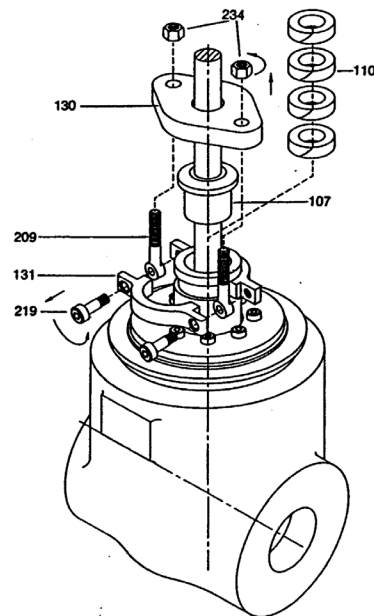

Figure 15
6.3.2 Unbolt the gland nuts (234) and remove the gland flange (130), gland (107), and packing per Paragraph 5.4 (Fig. 15).